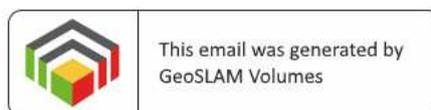

Figure 84. Email response from a successful test email.
6. Open a mail browser and confirm that the email has been received (Figure 84).